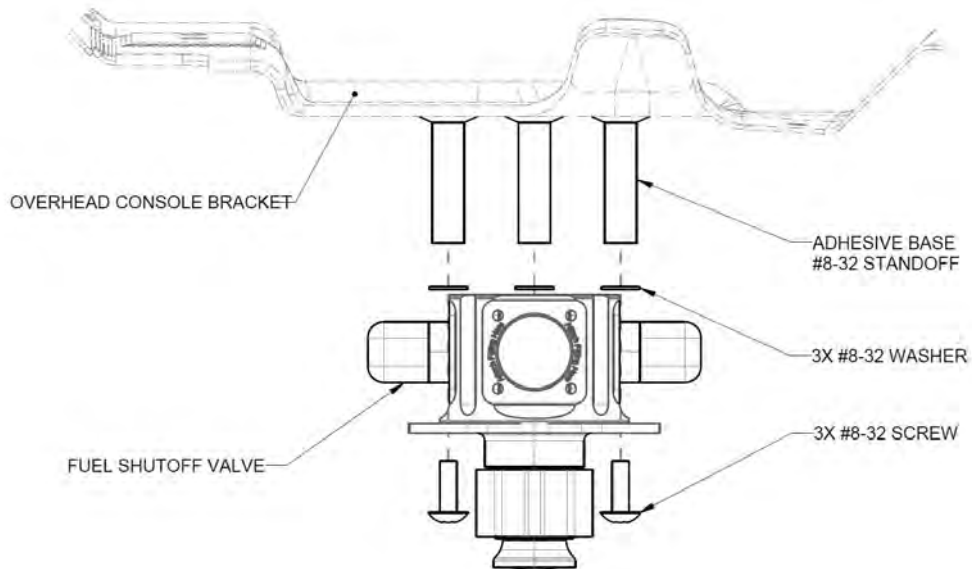

FIGURE 11-26
6. Remove the three #8-32 screws to remove the Fuel Shutoff Valve. Be careful not to lose the three washers that sit above the Fuel Shutoff Valve. (See Figure 11-26.)
1. Install the new Fuel Shutoff Valve with applicable hardware. (See Figure 11-26.) Apply THREAD-LOCKER and torque screws to 13 in-lbs.